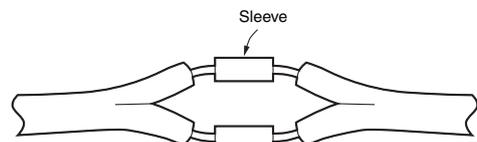

Figure 9
As shown in Figure 9, the sensing bands can be inserted from opposite ends of the crimp sleeve to meet in the middle. Either P-1.25 or B-1.25 crimp sleeves can be used but make sure that the crimped section is big enough to fit three folds of the cable conductors.
(4) Connecting the Sensing Band and Lead Wires
Connect the sensing band and lead wires using the method described in the previous item (3). Use a B-1.25 crimp sleeve. (Refer to Figure 9.)